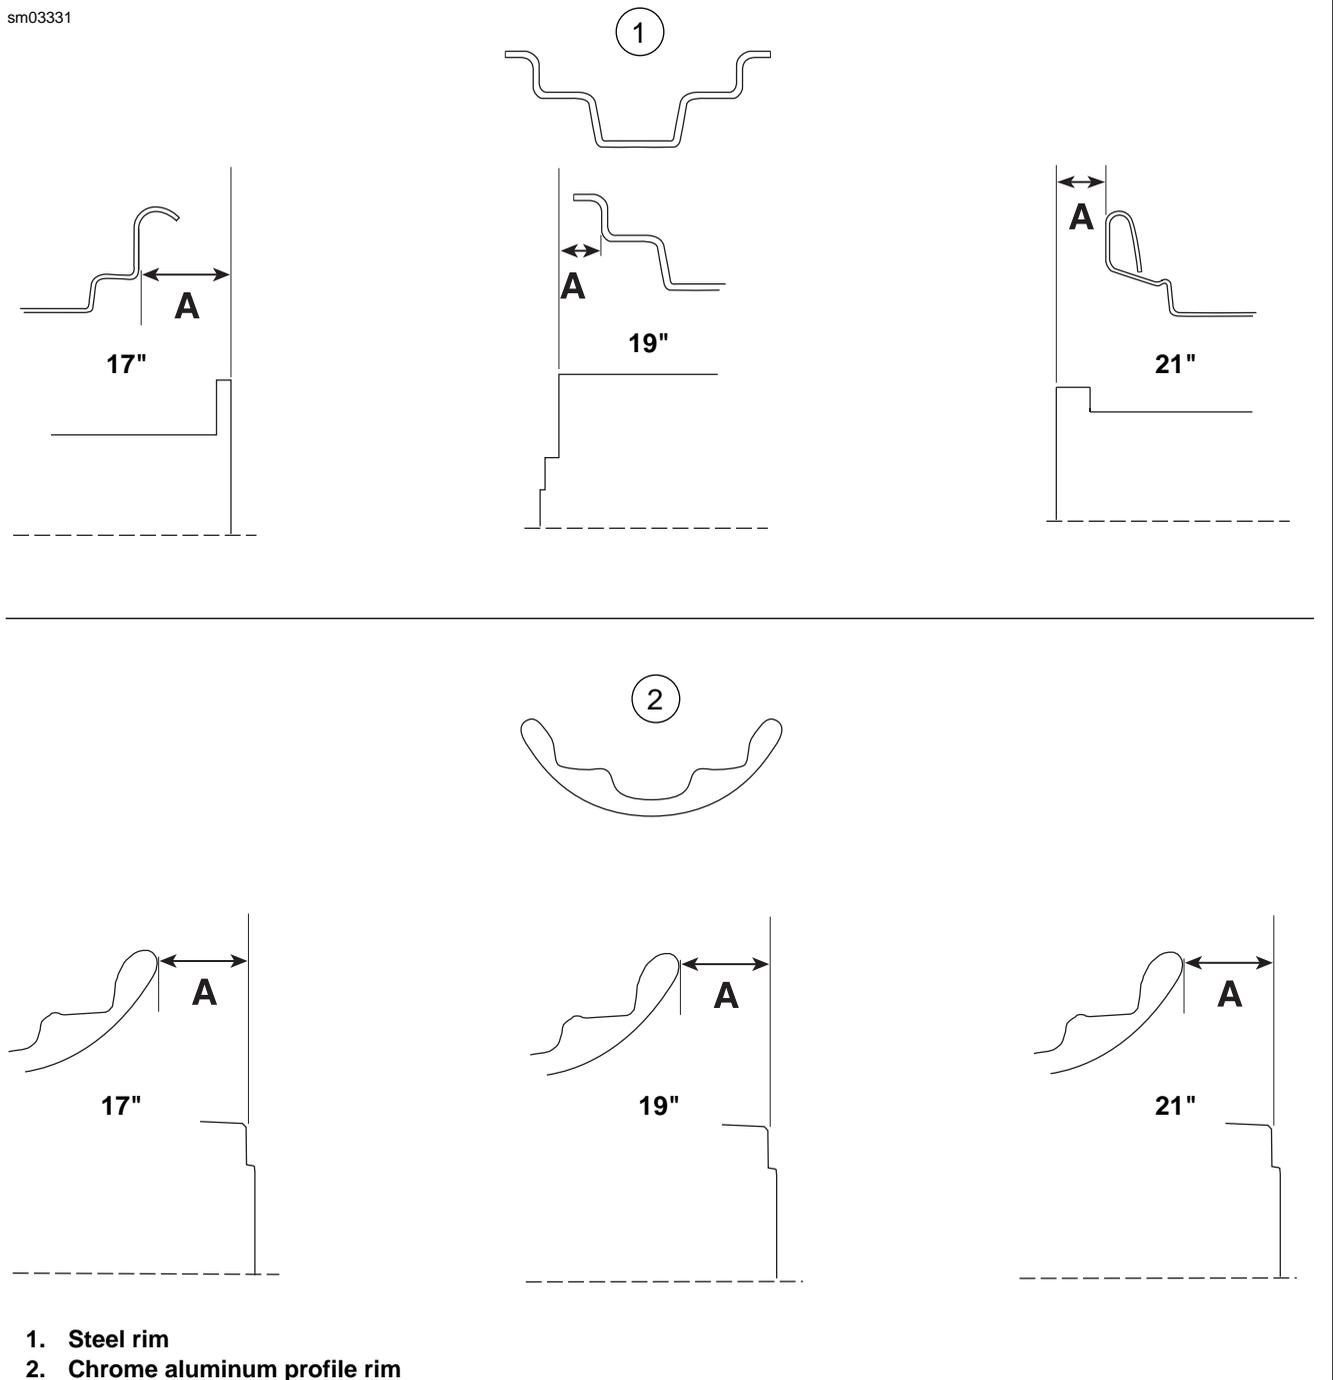

Figure 2-32. Laced Wheel Hub Offset Dimensions
4. See Figure 2-32 and Table 2-11. Measure distance "A" from the straightedge to the location as shown.